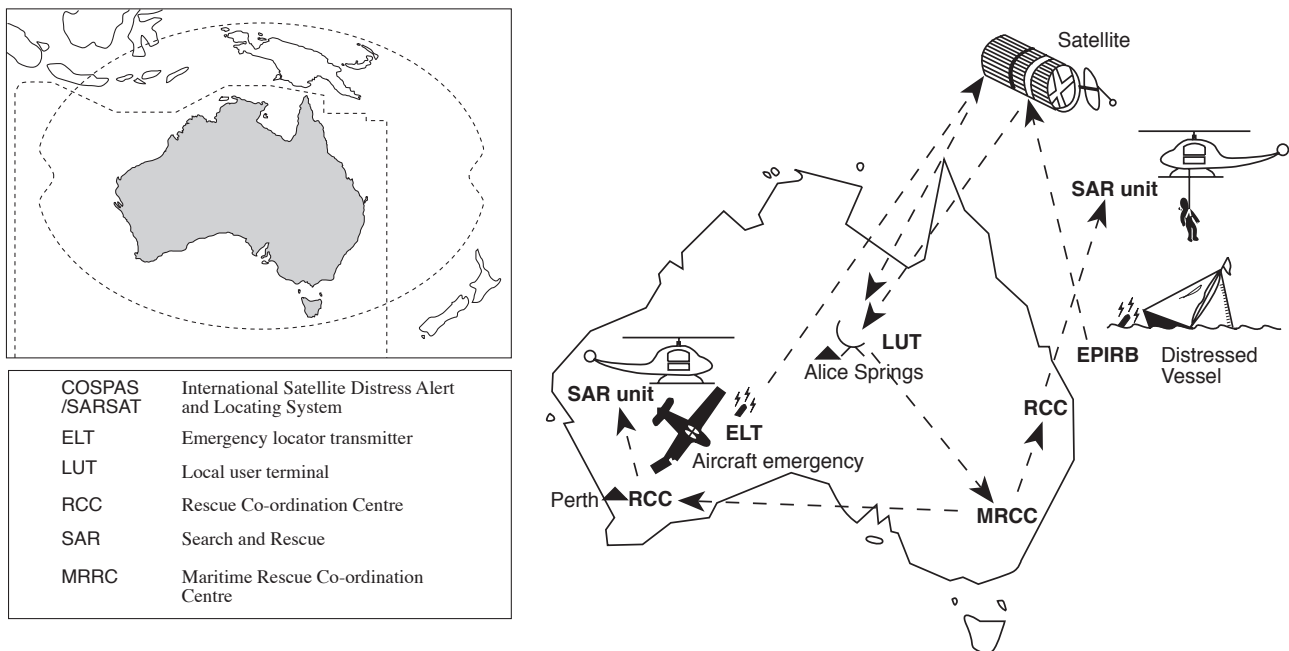

Figure 3.1 Adapted from Maritime Rescue Co-ordination Centre Canberra article on EPIRBs
9. Look at Figure 3.1 and answer the following questions.